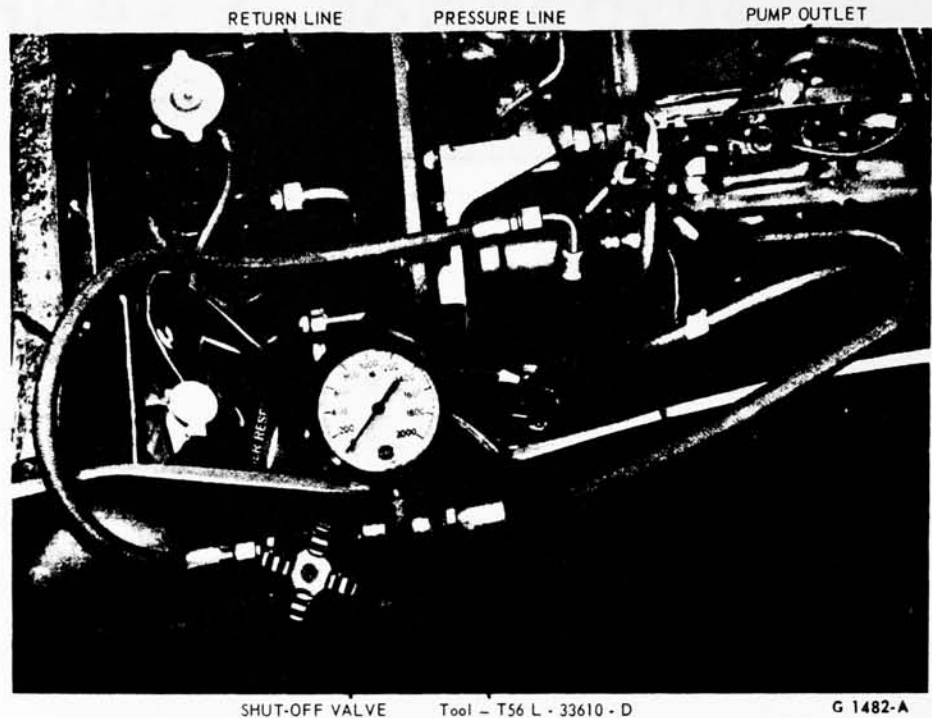

FIG. 1—Pressure Testing Tool—Typical
2. Disconnect the pressure line hose from the pump outlet, and install a 0-2000 psi pressure gauge (Tool T56L-33610-D) and the shut off valve between the end of the hose and the pump outlet (Fig. 1).